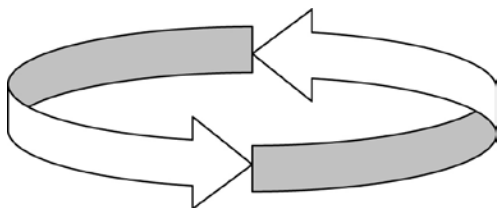

Figure 3: Reverse Orientation Marking
- it has a reverse orientation mark (Figure 3)